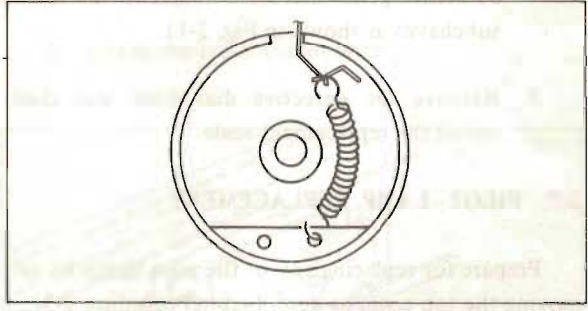

Fig. 2-6 Coil spring installation
1. Hook the spring to one hole of the drive drum as shown in Fig. 2-6.